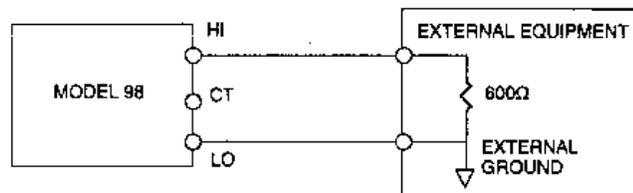

Figure 3-5. 600Ω Unbalanced Connections
4. Connect the 600Ω output (28) connector to load. If using BNC coax, use a dual banana to BNC adapter, and verify that the "ground" side of the adapter is connected to the "LO" and not the "HI" side of the 600Ω output or loss of amplitude bandwidth will result. See Figure 3-5 for correct connections.
5. Connect the SYNC OUT (23) connector as TTL clock signal or equipment synchronization signal.